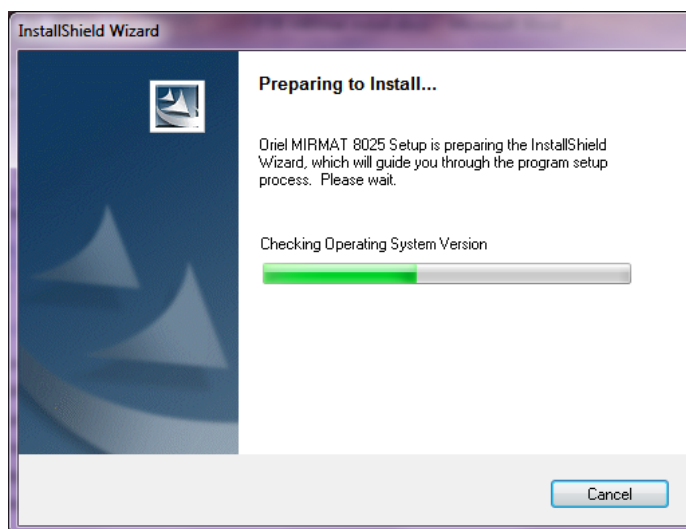

Figure 21: Configuring MIRMat Installer
16. A window will appear to indicate configuring of the installer, as shown in Figure 21. This may take a few minutes.